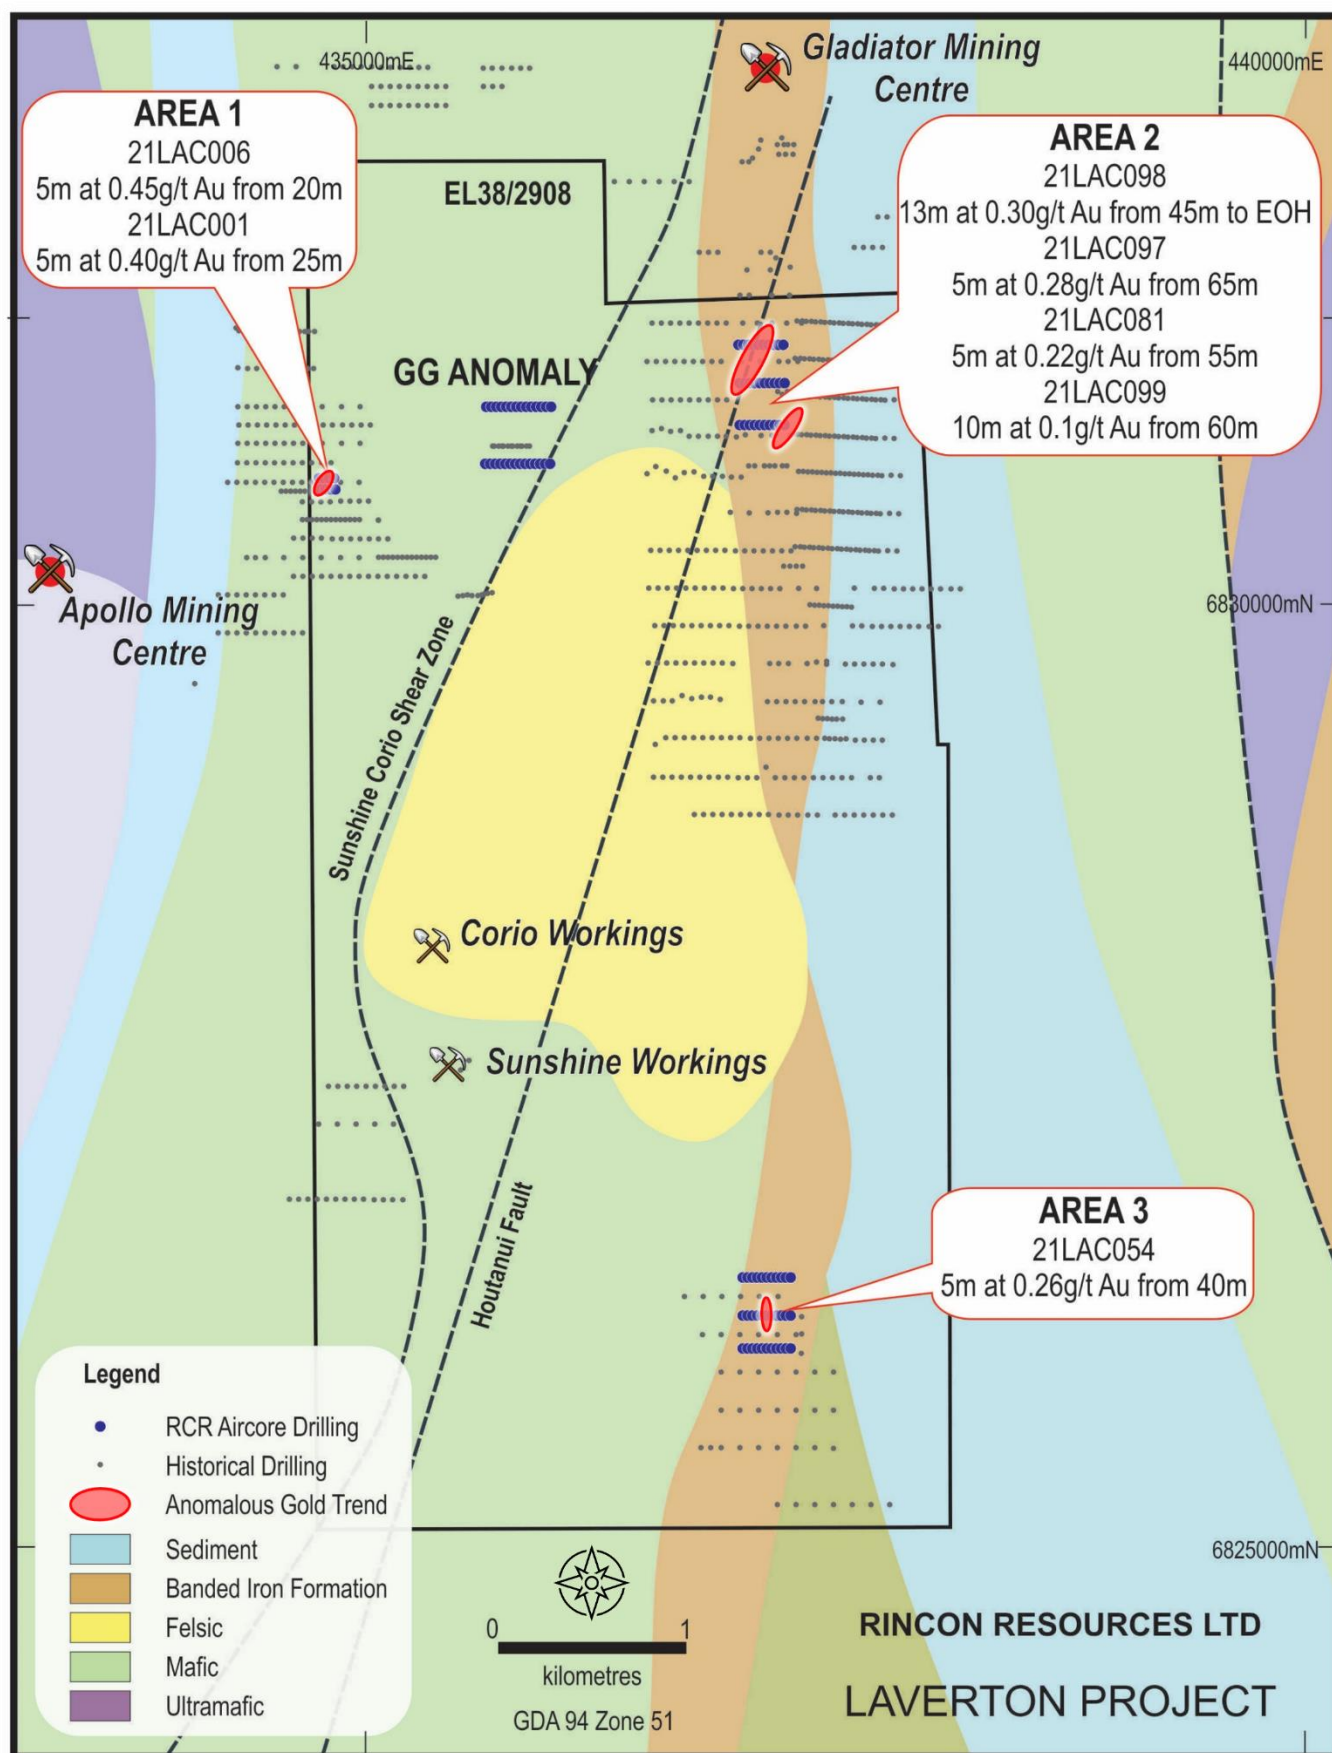

Figure 1 – Air-core drilling areas and anomalous trends at the Laverton Gold Project.
A 103 hole, 6,416m air-core (AC) drill programme (21LAC001-103) was completed at the Laverton Gold Project which aimed to define the extent of gold mineralisation, intersected in historical drilling, over four priority areas (Figure 1).